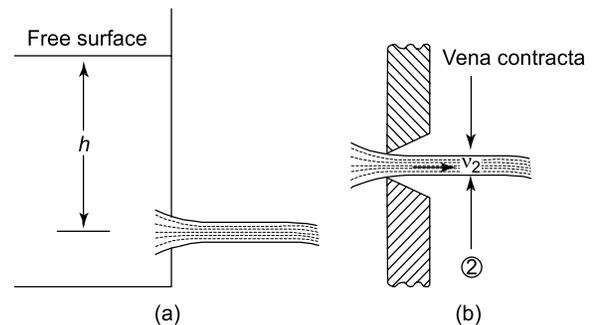

Figure 23.13
Consider the flow of a liquid through a small orifice, as shown in Figures 23.13(a) and (b), where it can be seen that the vena contracta (VC) lies just to the right of the orifice. The cross-sectional area of the fluid is the smallest here and its decrease in area from the orifice is measured by the coefficient of contraction (C_c).
3. If in Figure 23.13, $h = 6$ m, $C_c = 0.8$, $C_v = 0.7$, determine the values of C_d and actual v_2 .
4. If in Figure 23.13, $h = 10$ m, $C_c = 0.75$, $C_v = 0.65$, and the cross-sectional area is 1.5×10^{-3} m², determine the discharge and the actual velocity v_2 .